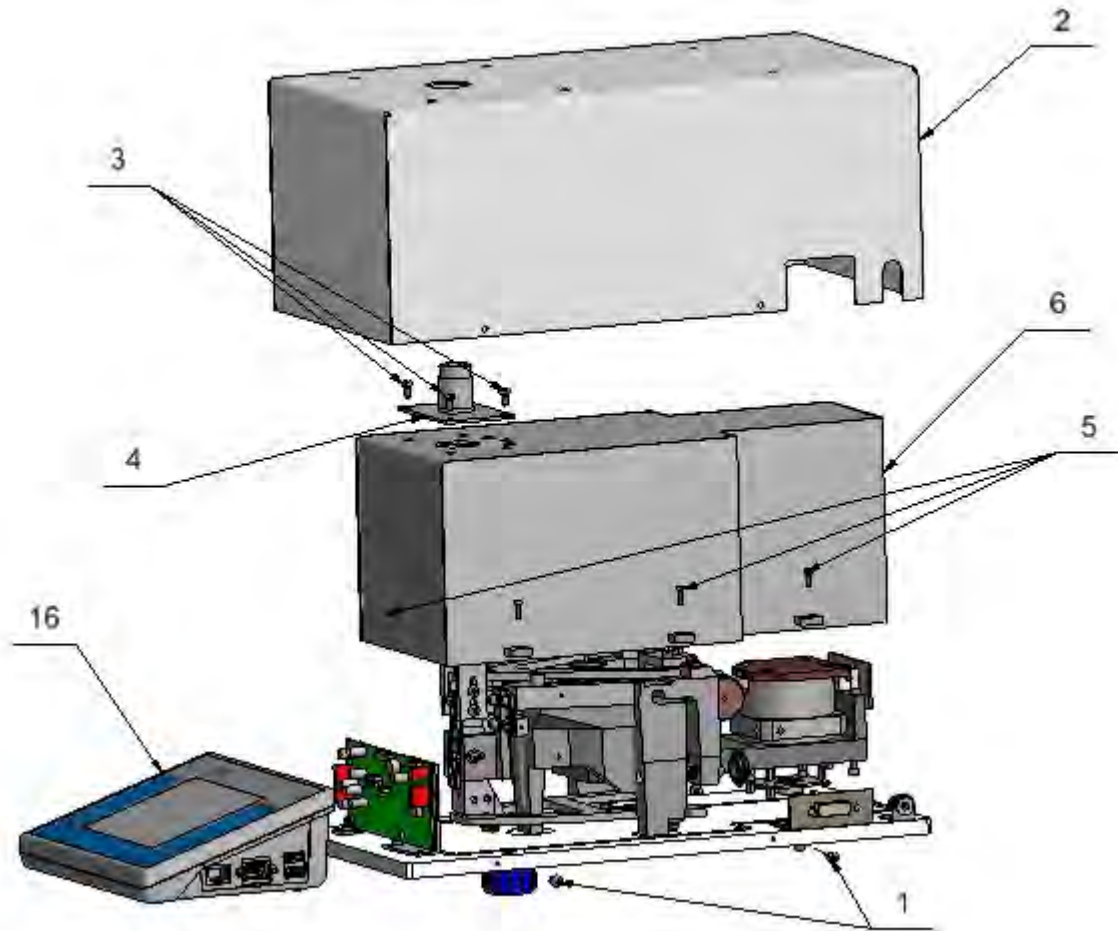

Fig. 1
1. Undo four M5 screws (1), next remove the housing (2). (Fig.1)
2. Undo four M44 screws (3), carefully remove weighing pan shield assembly (4). (Fig.1)
3. Undo six M3 screws (5) and remove anti-draft shield assembly for the mechanism (6). (Fig.1)